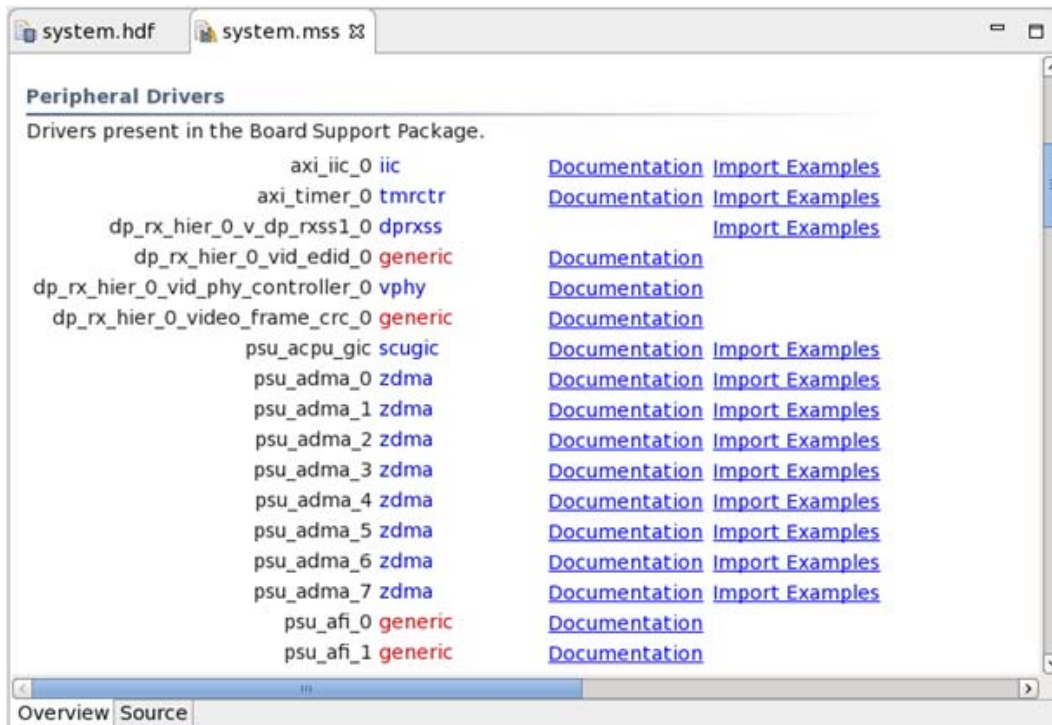
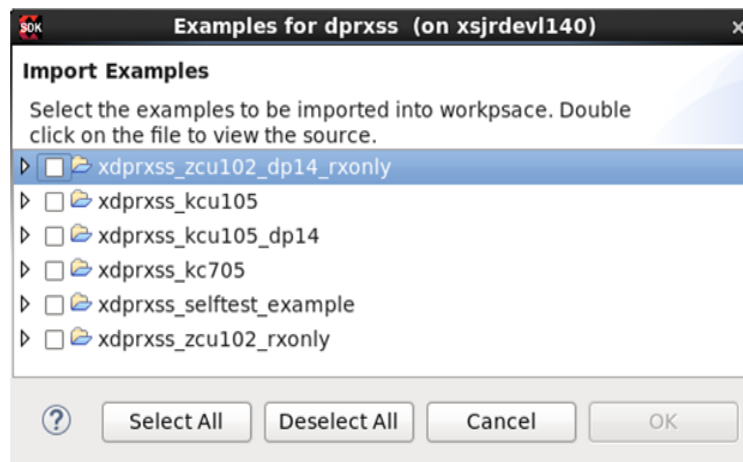

Figure 5-15: system.mss
Figure 5-16: Import Examples
- Find DisplayPort 1.4 RX/TX Subsystem Driver in the `system.mss` file (Figure 5-15). If it is not, open the file from the BSP in the **Project Explorer**. Click **Import Examples** (Figure 5-16).